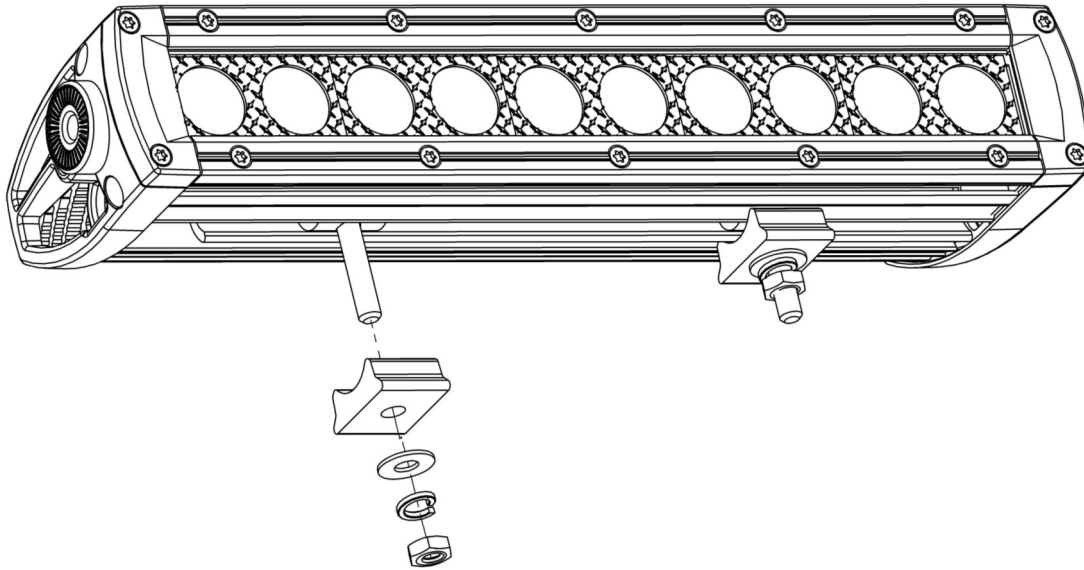

Figure 3
- Loosely secure the brackets onto the M6 hex head bolts using the provided M6 hardware. See **Figure 3**.